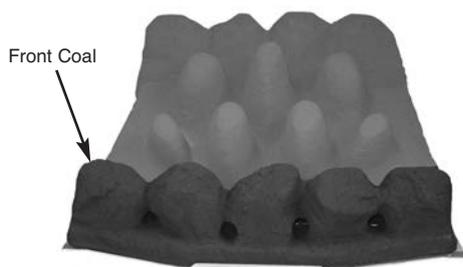

Fig. 22
3. Position the front coal on the front coal retainer, making sure that the back edge is pushed up against the front of the burner strip (Fig. 22).